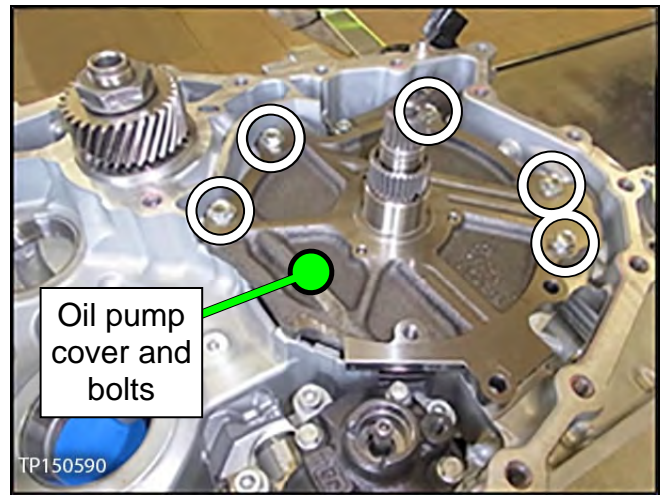

Figure 39
7. Remove the five (5) bolts, and then remove the oil pump cover (see Figure 39).